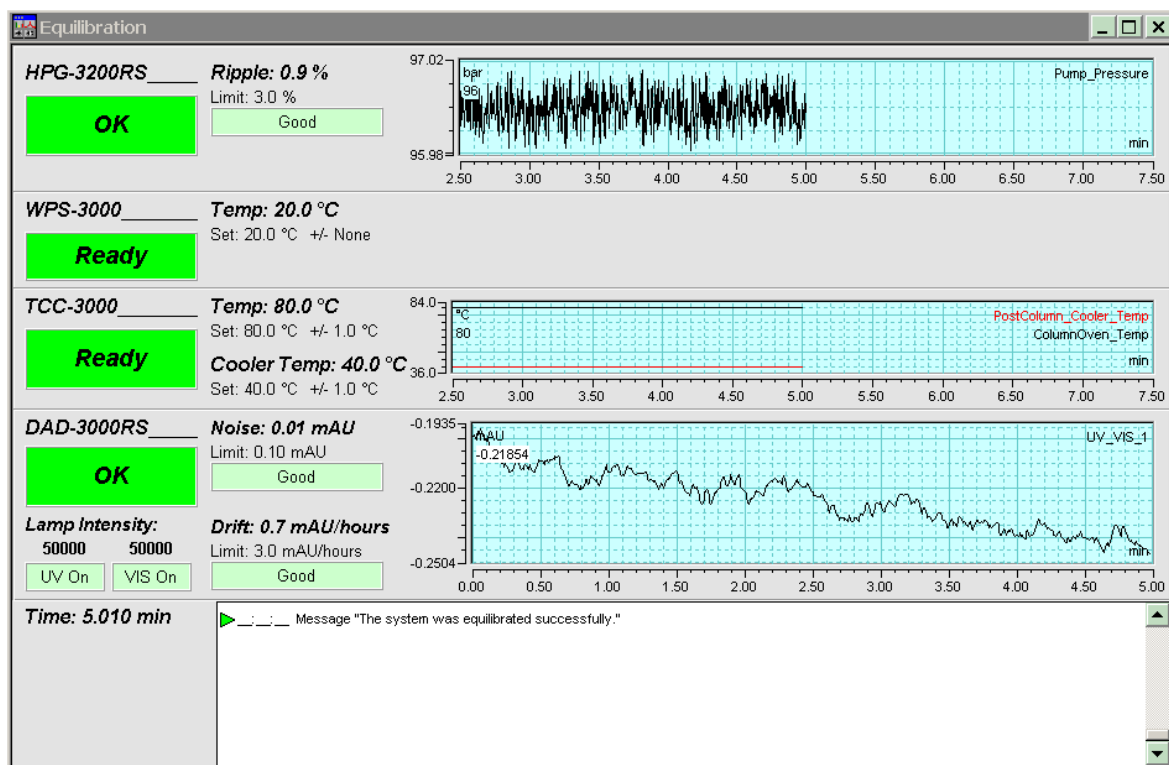

Fig. 22: Equilibration panel
- ◆ Opens the equilibration control panel for the instruments in the timebase (→ Fig. 22, page 66)